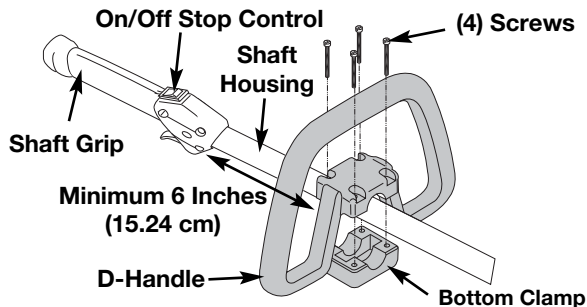

Fig. 1
1. Place the D-handle down on to the shaft housing and the bottom clamp so that the handle slants towards the shaft grip (Fig. 1). Place handle and clamp a minimum of 6 inches from the end of the shaft grip.